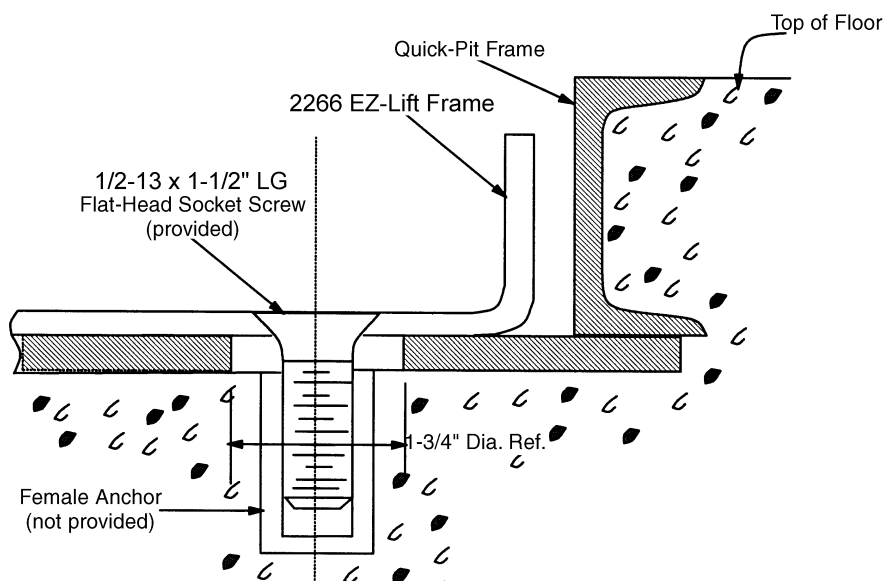

Figure 6-b Frame Anchoring Detail
4. Install the anchors into the concrete, then secure the frame using the eight flat-head screws provided. See Figure 6-b.